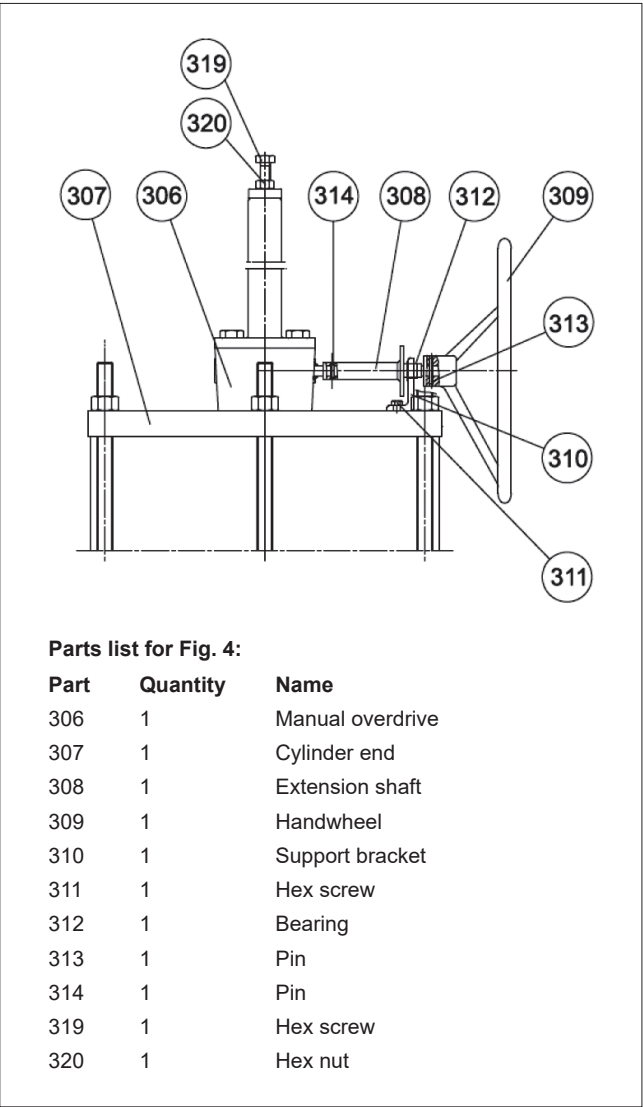

Fig. 4 B1C_RK
The B1C actuator can be changed into a B1C_RK by replacing the cylinder end (44) accordingly and adding parts (306...330), see Fig. 4.
The B1C actuator can be changed into a B1C_RR by replacing the cylinder end (44) and housing (1) accordingly and adding parts (306...330), see Fig. 4 and 5.